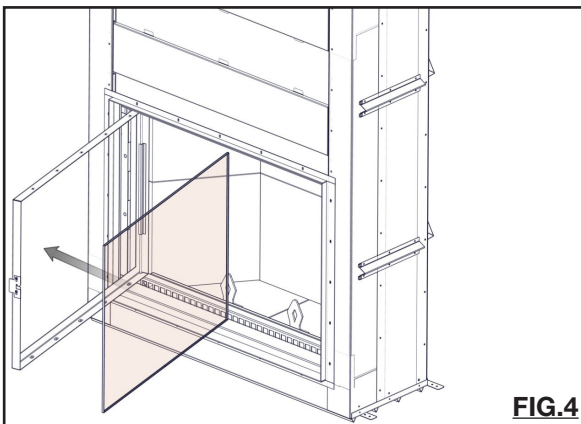

FIG.4
- F. Reinstall glass inside the door frame. **(FIG. 4)**